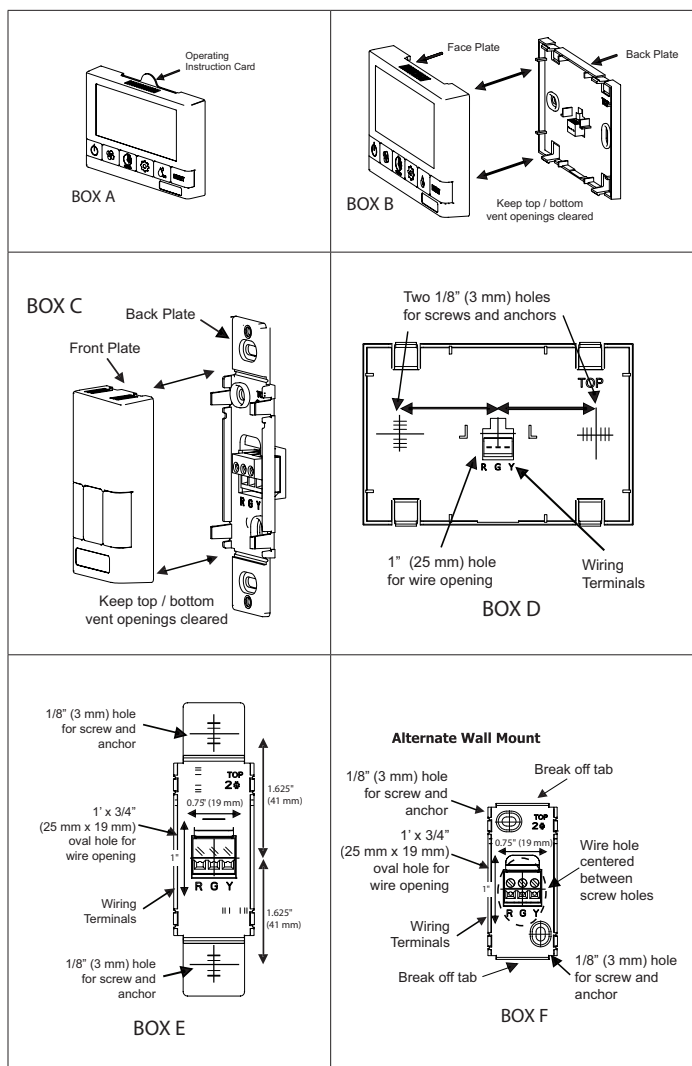

Figure 37. Digital Control Installation
1. For the Digital 5-Speed / 5-Mode Control, remove the operating instructions card from the top of the control (Figure 37, Box A).
2. Separate the face plate from the back plate by firmly pulling apart (Figure 37, Boxes B or C). Be careful not to damage face plate contact pins.
3. For the Digital 5-Speed / 5-Mode Control, place the back plate of the control in the desired location on the wall and pencil mark the wall with the right and left screw holes (Figure 37, Box D).
4. For the Wall Mount Dehumidistat/ Ventilation Control, place the back plate of the control in the desired location on the wall and pencil mark the top and bottom screw holes (Figure 37, Boxes E or F). For mounting the control without a decorative plate, break off top and bottom tabs and refer to Figure 37, Box F for mounting.
5. Remove the back plate from the wall and mark the center hole for the wires in the middle of the screw holes. Refer to Figure 37, Boxes D, E or F for dimensions.
6. Drill (two) 1/8" (3 mm) holes for the screws and wall anchors (Figure 37, Boxes D, E or F). For the Digital 5-Speed / 5-Mode Control , drill a one inch hole in the center (Figure 37, Box D). For the Wall Mount Dehumidistat/Ventilation Control, cut in a 3/4" (19 mm) by 1" (25 mm) oval hole in the wall (Figure 37, Boxes E or F).
8. Connect red, green, and yellow to the wiring terminals located on the back plate (Figure 37, Boxes D, E or F).
10. Attach the face plate to the back plate (Figure 37, Boxes B or C)
11. For the Digital 5-Speed / 5-Mode Control, insert the instructions card into the control (Figure 37, Box A).